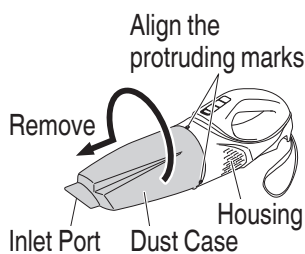

Fig. 5
- (1) **Remove the dust case (Fig. 5)**